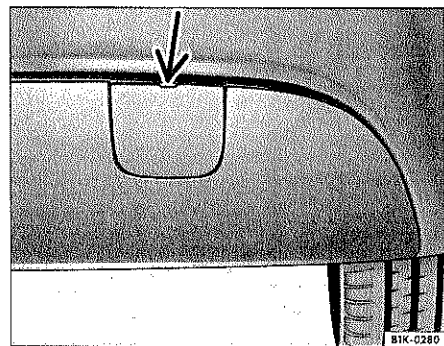

Fig. 52 Rear bumper, right side: removing the cover.
- Insert the flat blade of the screwdriver into the slot between the cover and the bumper ⇒ fig. 52 (arrow).